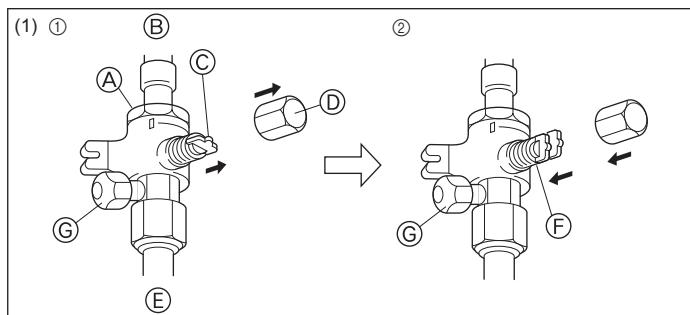
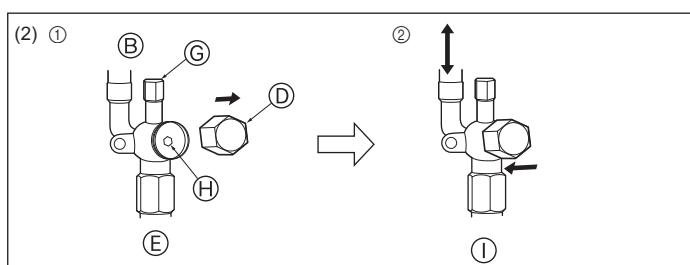

Fig. 4-6
Fig. 4-7
(1) Gas side (Fig. 4-6)
- ① Remove the cap, pull the handle toward you and rotate 1/4 turn in a counterclockwise direction to open.
- ② Make sure that the stop valve is open completely, push in the handle and rotate the cap back to its original position.
- (2) Liquid side (Fig. 4-7)
- ① Remove the cap and turn the valve rod counter-clockwise as far as it will go with the use of a 4 mm hexagonal wrench. Stop turning when it hits the stopper. (ø6.35: Approximately 4.5 revolutions) (ø9.52: Approximately 10 revolutions)